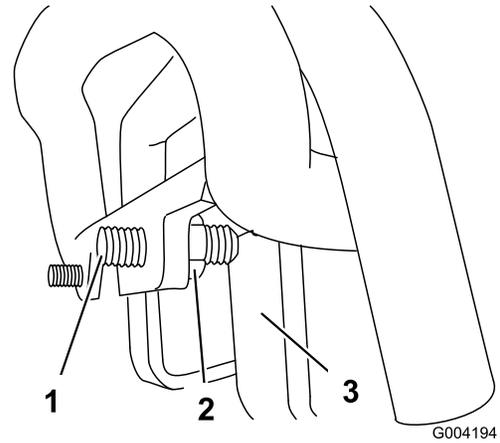

Figure 54
- 4. If the machine veers to the **right**, loosen the **left** jam nut and adjust the tracking set screw on the front of the traction control (Figure 54).
- 3. If the machine veers to the **left**, loosen the **right** jam nut and adjust the tracking set screw on the front of the traction control (Figure 54).